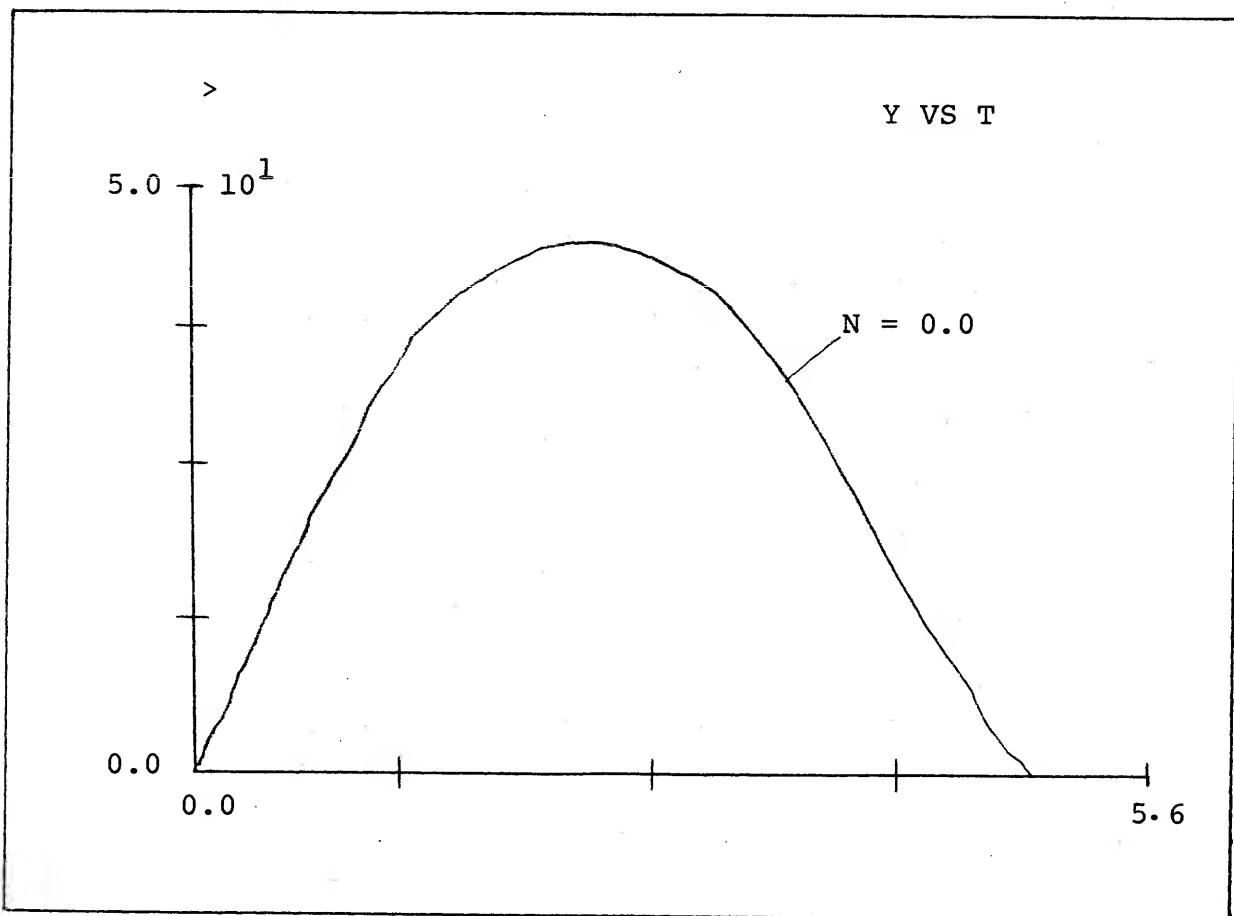
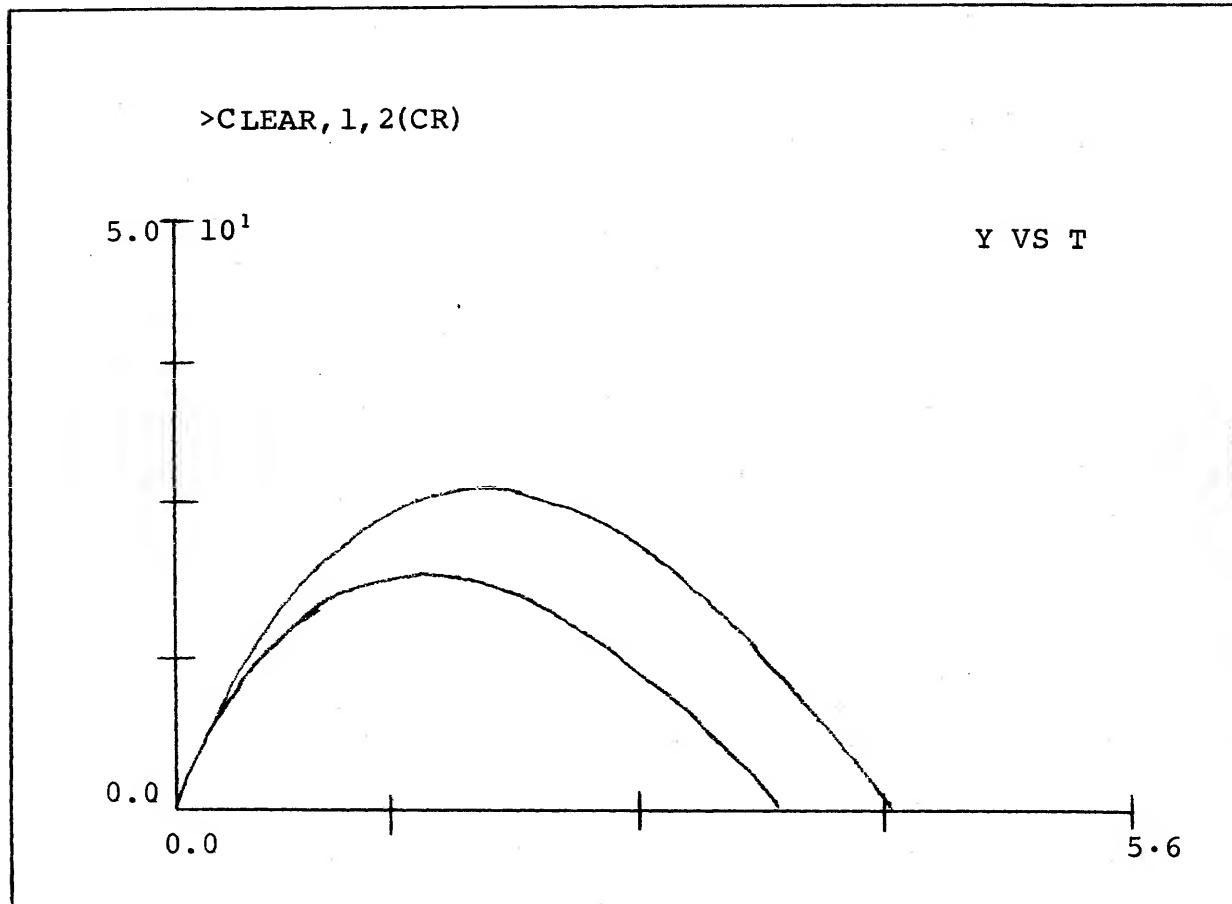

Figure 7. The curve labelling was accomplished using the (DEL) command. (See p. 48.)
Figure 8. This set of curves was generated by a `CLEAR,1,2`, using the functions of the previous example.
If the modifiers, r and m, are omitted then the values 0 and 1, respectively, are assumed, so that typing CLEAR(CR) and CLEAR,0,1(CR) are entirely equivalent. In the present example either of these forms would result in the curve and axis shown in Figure 7.
results are shown in Figure 8. Notice that there has been a screen erasure between Figures 7 and 8, so that the curve with $N=0$ is no longer present. Since the erasure may or may not be pedagogically useful, an alternate command, called JUMP, can be employed.
The general form of the JUMP command is `JUMP,r,m`. Except for the fact that JUMP does not erase the screen it is identical to the CLEAR command, so that in the above example `JUMP,1,2(CR)` would simply result in a superposition of the displays shown in Figures 7 and 8.